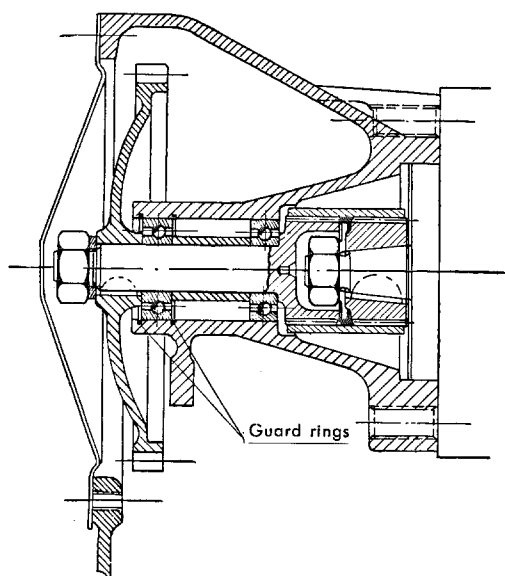

Figure 07-27/3
8. Remove the rear annular grooved-bearing (7) from the driving shaft (9), if it should stay on the shaft while the driving shaft (9) is punched out. However, if the bearing stays in the timing housing cover (3), drive out the annular grooved-bearing (7) towards the rear with a suitable punch (see Figure 07-27/4).